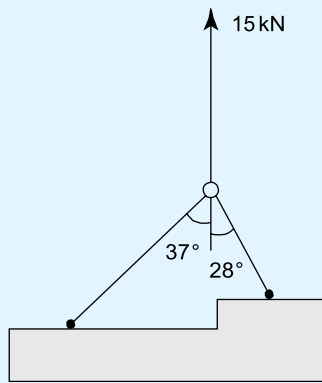

Figure 5.22
2. A two-legged sling and hoist chain used for lifting machine parts is shown in Figure 5.22. Determine the forces in each leg of the sling if parts exerting a downward force of 15 kN are lifted. [9.96 kN, 7.77 kN]